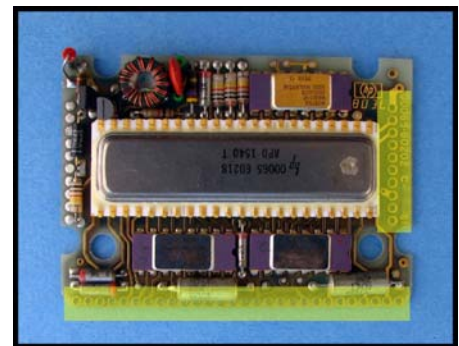

Figure 7: logic PCB with contact points highlighted.
3. The logic PCB will separate completely as seen in Figure 7.
Clean the contact points highlighted in yellow in Figure 7 as well as the pins on the top shell extruding from the keyboard and the card reader connector board.